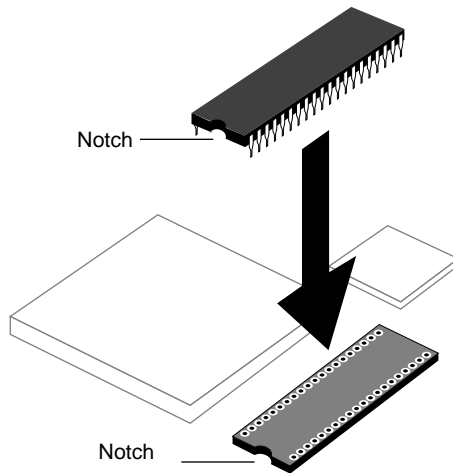

Figure 0-3 Lining Up the PROM Chip
- Orient the new PROM chip above the socket on the system board so the end with the semicircular notch lines up with the notch in the socket. (See Figure 0-3.)